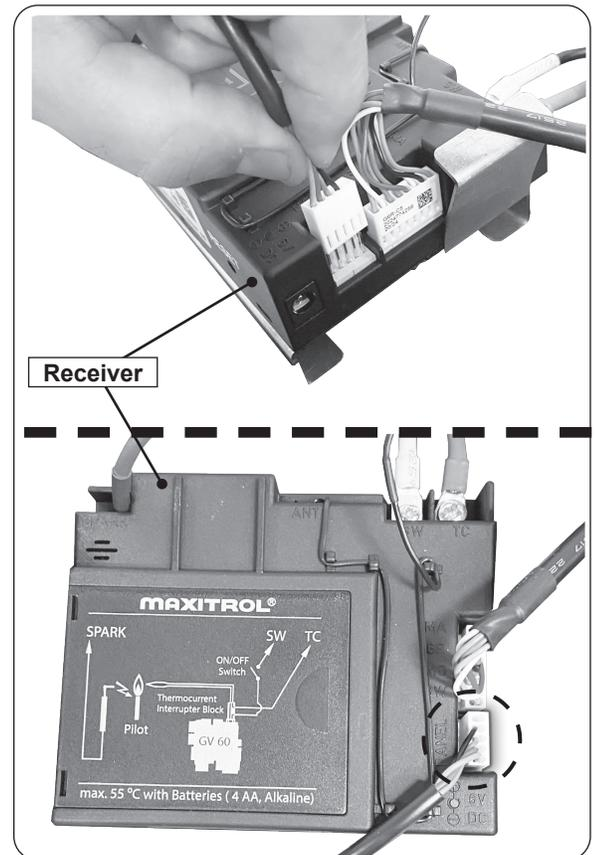

Fig. 1-2 Connect to 01V receiver
2. Locate the male connector on the receiver and connect. Ensure all connections are fully secured. See Fig. 1-2.